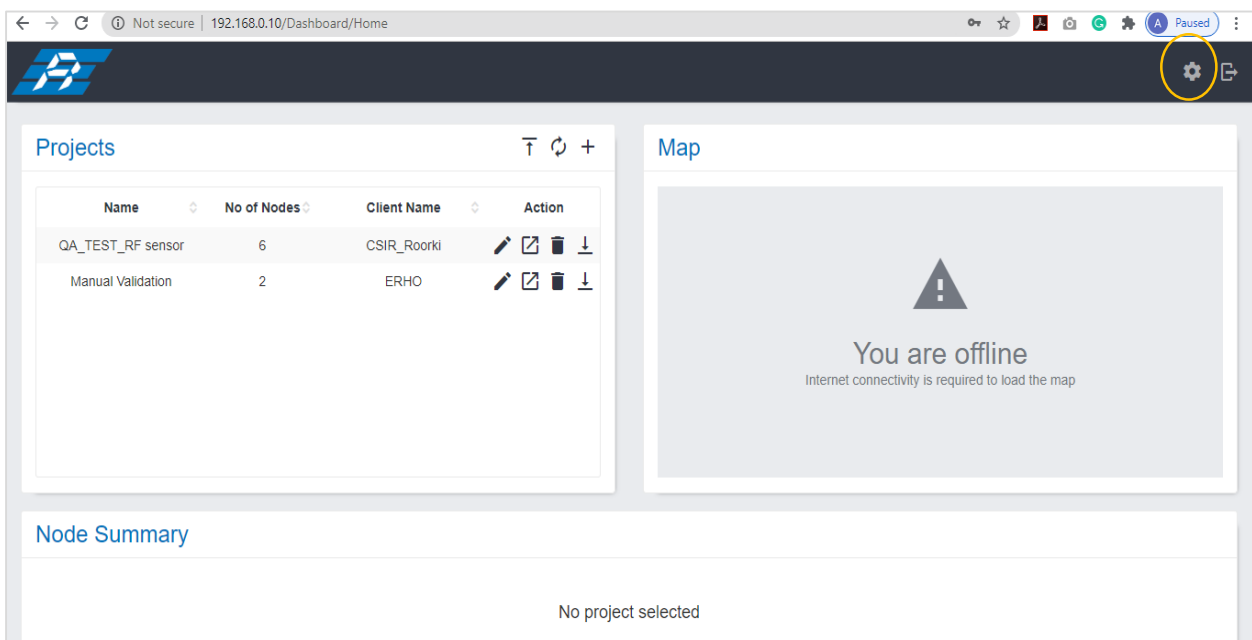

Figure 3-4
- 6 After logging, screen as shown in figure 3-4 will open. Click on the Gear Icon (encircled in figure).